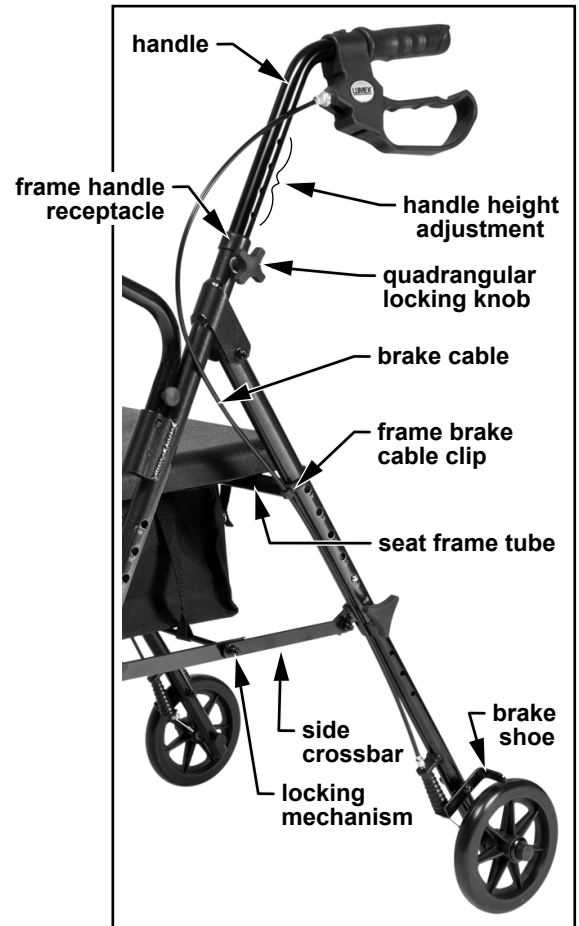

fig. 4
Install both handles in frame handle receptacles as shown in fig. 4.
2. Secure both brake cables onto frame with brake cable clips as shown in fig. 4.